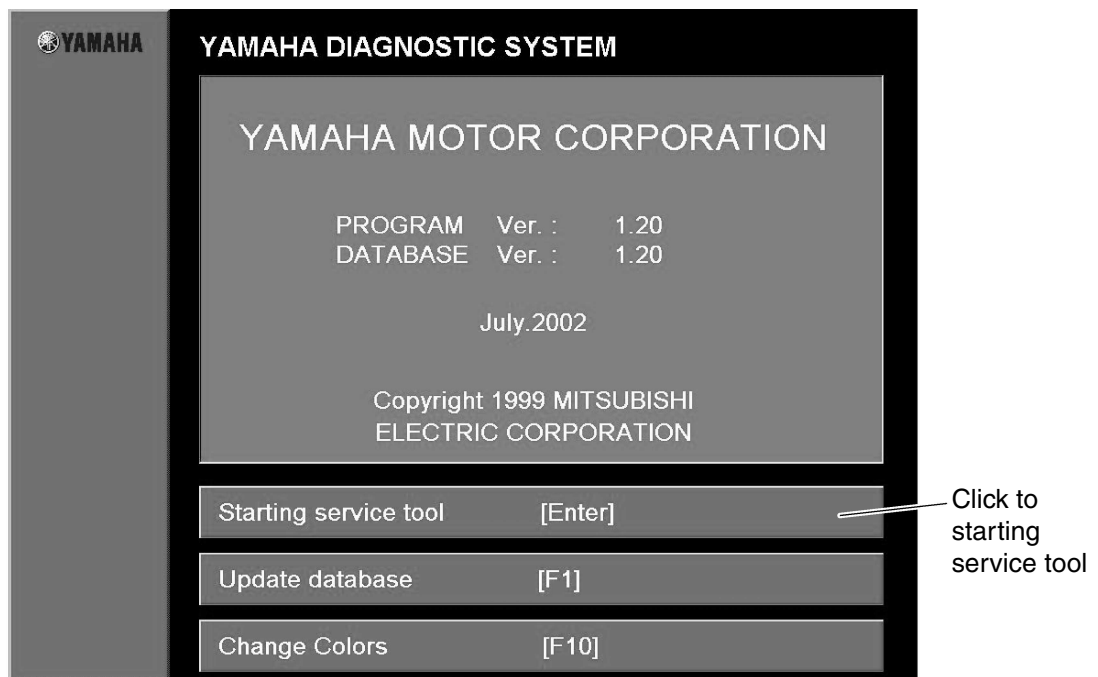

Fig. 7
- Click the **Starting service tool [Enter]** button or press the Enter key on your keyboard. (Fig. 7)